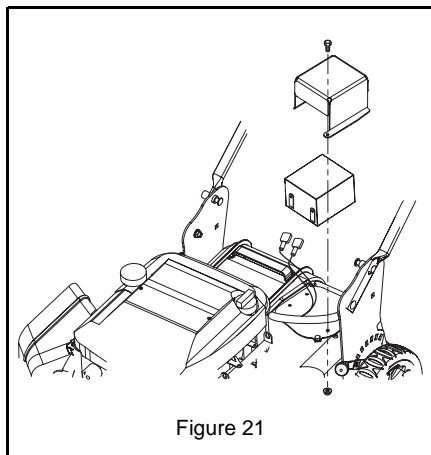

Figure 21
1. Disconnect negative (-) cable first, then positive (+) cable (Figure 21).
3. Connect negative (-) cable first, then positive (+) cable (Figure 21).